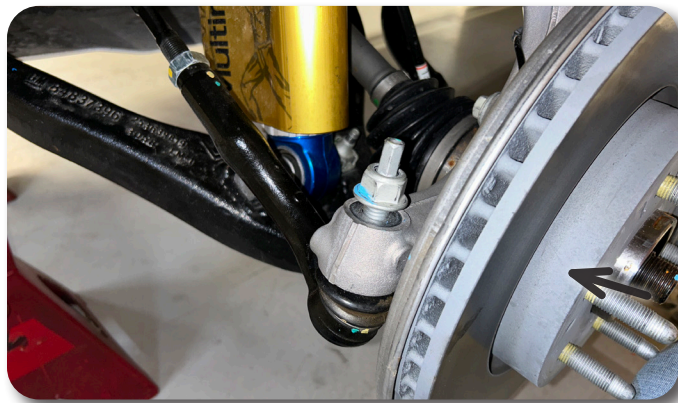

Figure 14
16. Re-connect the tie rod to the steering knuckle, Torque the tie rod nut with a first pass to 26 ft-lbs and a final pass of 90-105 degrees. Figure 14